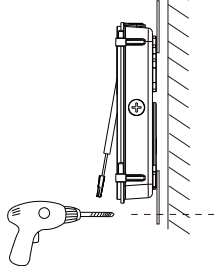

Fig. 2-2A
2. Rotate the three mounting kits to the proper angle. Put the fixture on the wall, make three marks according to the three mounting kits, then drill three holes for them. (Fig. 2-2A)